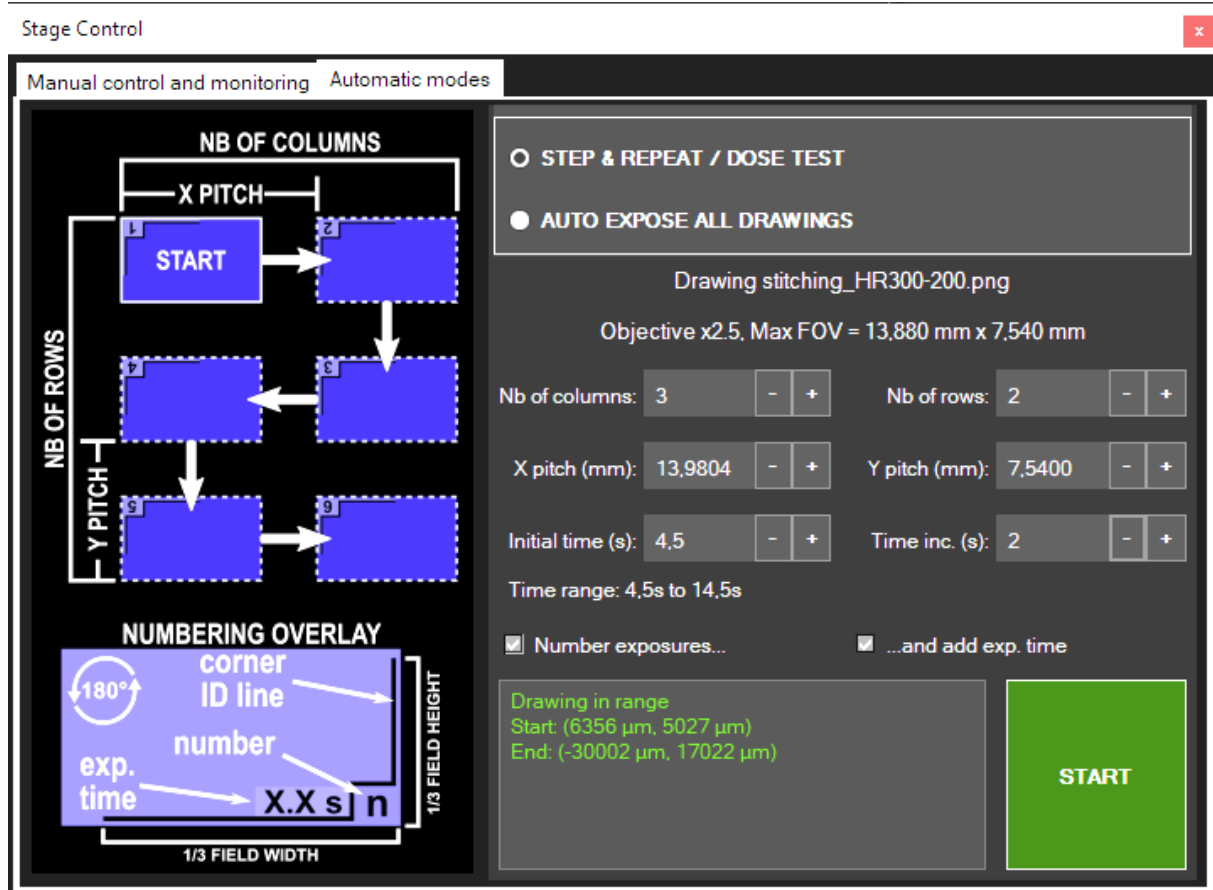

Figure 30 – Automatic mode tab in XY stage window
- Go to **Automation** menu and click on **Dose test**. A new window opens as shown in Figure 30. The “Step & Repeat / Dose Test” mode should be selected. “Selected drawing” and “Selected objective and Max FOV” fields respectively indicate which drawing will be exposing with which objective and the corresponding max projected field-of-view.
- **Initial time** (in s). It corresponds to the exposure time of the first element of the array (Start position in the schematic Figure 30).